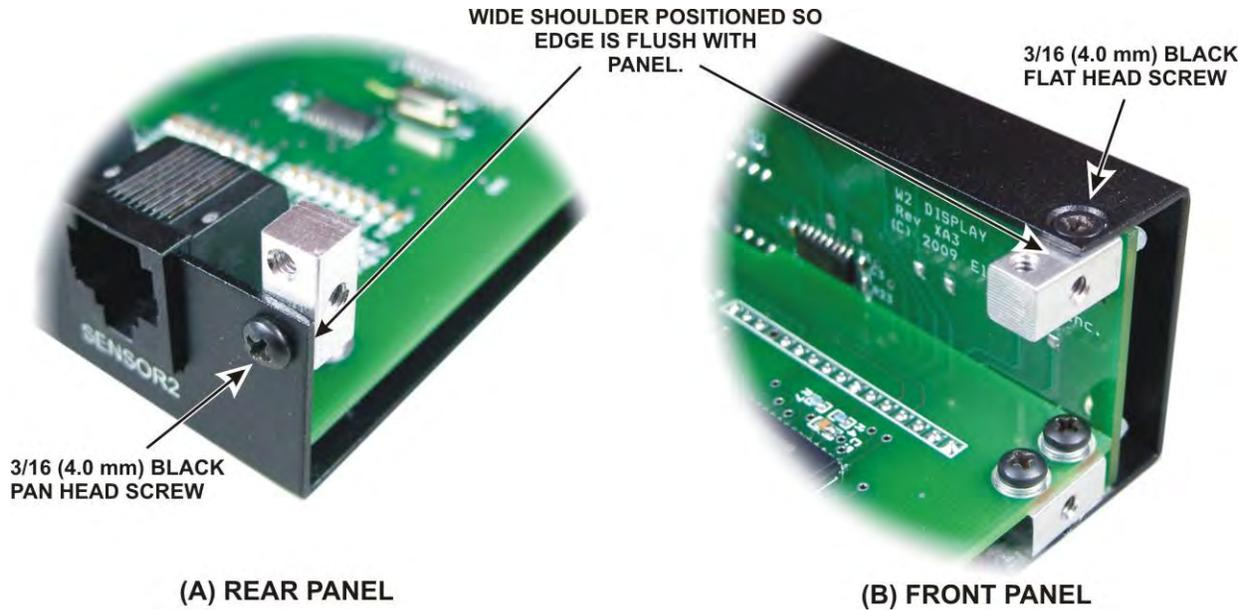

Figure 10. Mounting Front and Rear Panel 2D Fasteners.
- ❑ Install a 1/4" (6.4 mm) black pan head screw into the mounting hole for the PTT RY connector as shown in Figure 10. **Do not tighten this screw! It only threads into plastic. Stop turning when the head reaches the back panel.** Even though you don't tighten the screw, it provides critical support to keep the connector from flexing when connectors are inserted.
- Mount 2D fasteners with 3/16" (4.0 mm) black pan head screws at each end of the rear panel cover as shown in Figure 10 (A). Install one fastener at each end of the panel. Do not use lock washers.
- Mount 2D fasteners with 3/16" (4.0 mm) black flat head screws at each end of the front panel cover as shown in Figure 10 (B). Install one fastener at each end of the panel. Do not use lock washers.